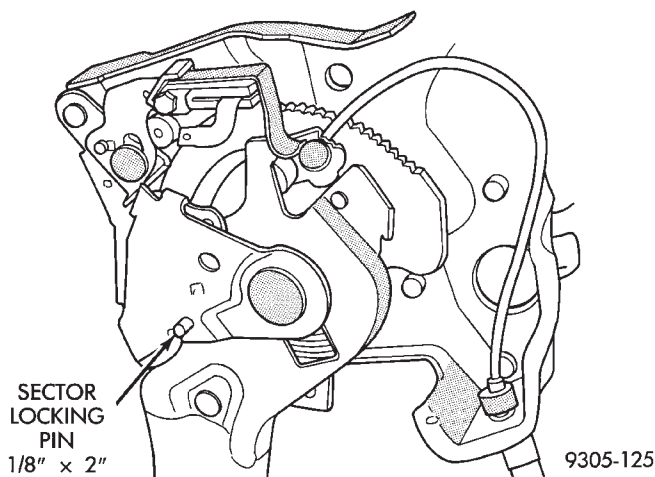

Fig. 4 Locking Pin Installed In Park Brake Mechanism
(6) Insert a pin or drill bit into park brake lever mechanism to lock sector in place (Fig. 4). Pin used